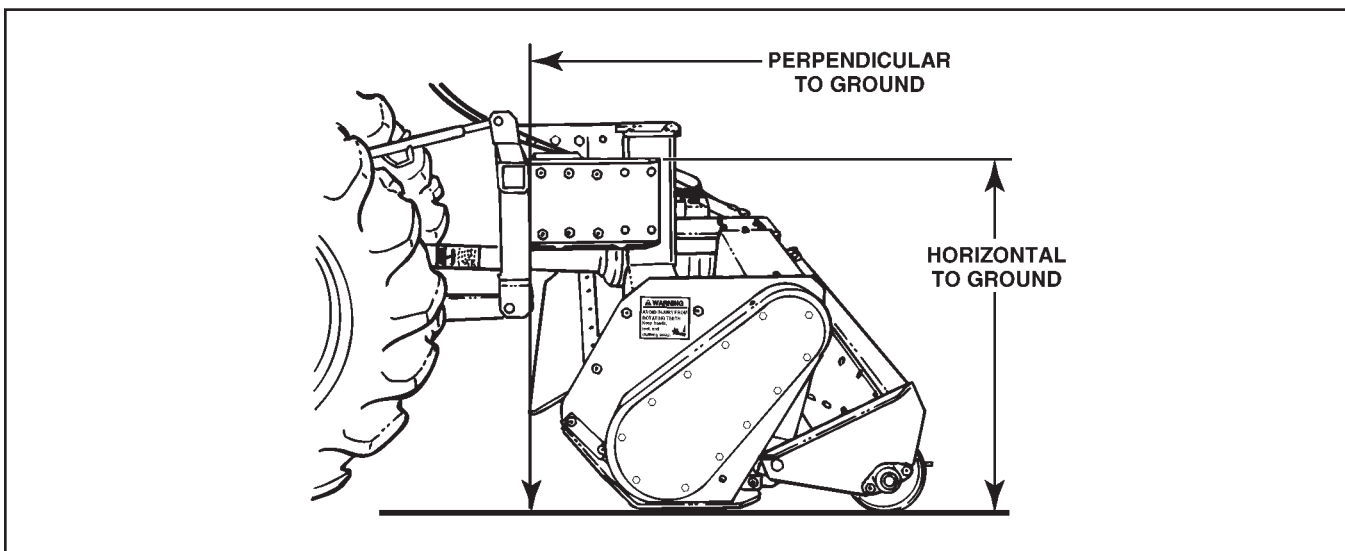

FIGURE 5 Leveling the Rotor
- G. For most operations the tiller rotor should be parallel with the ground. **Adjust top link so that horizontal section of hitch frame is parallel to ground and vertical section of hitch frame is perpendicular to ground.** (See Figure 5.)